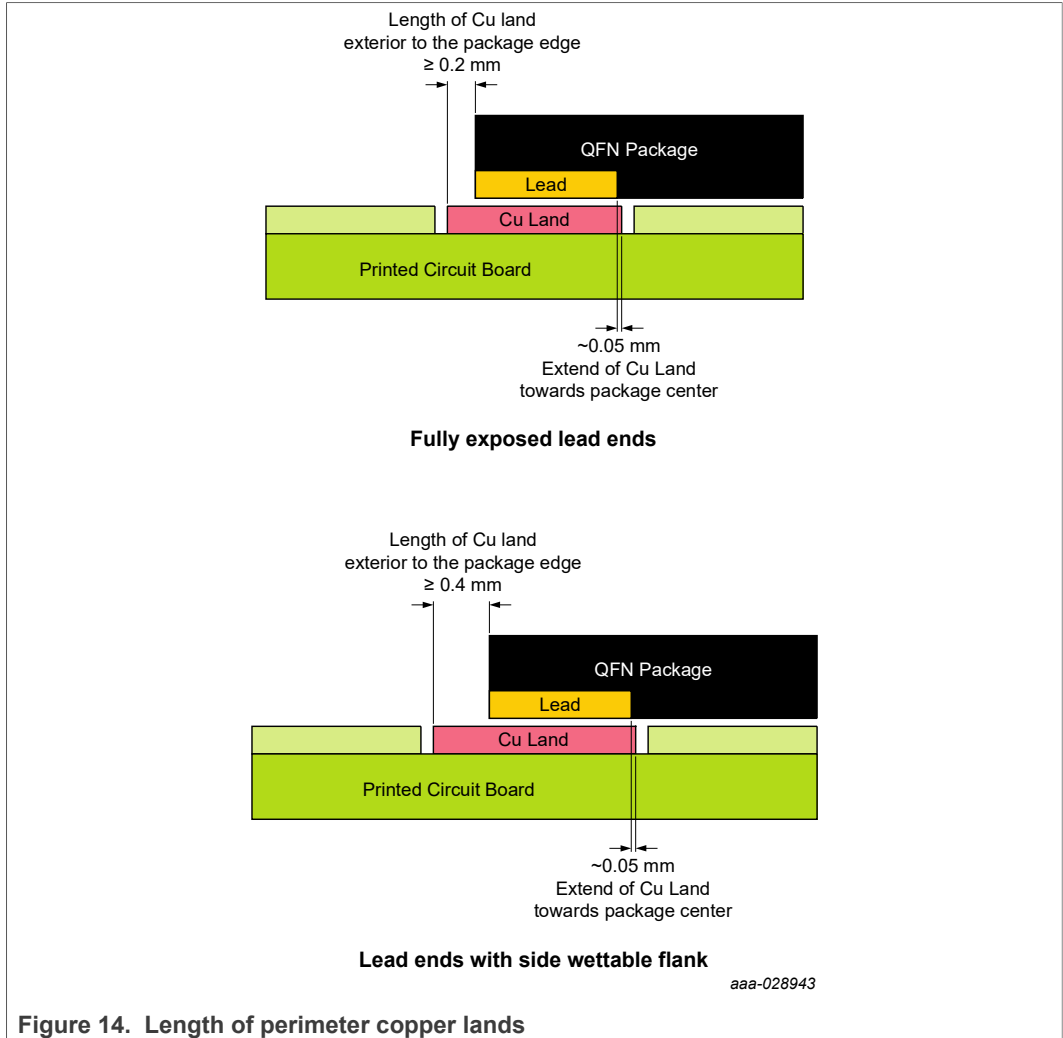

Figure 14. Length of perimeter copper lands
- The land should extend ~ 0.05 mm towards the center of the package (Figure 14).
- The land should extend ≥ 0.40 mm from the package edge to the exterior for QFN/SON with side wettable flanks to form inspectable toe solder fillets (Figure 14). If board space allows, a longer land extension (such as 0.60 mm) will generally result in more consistent fillet formation because it will be influenced less by PCB assembly issues (e.g. misalignment).